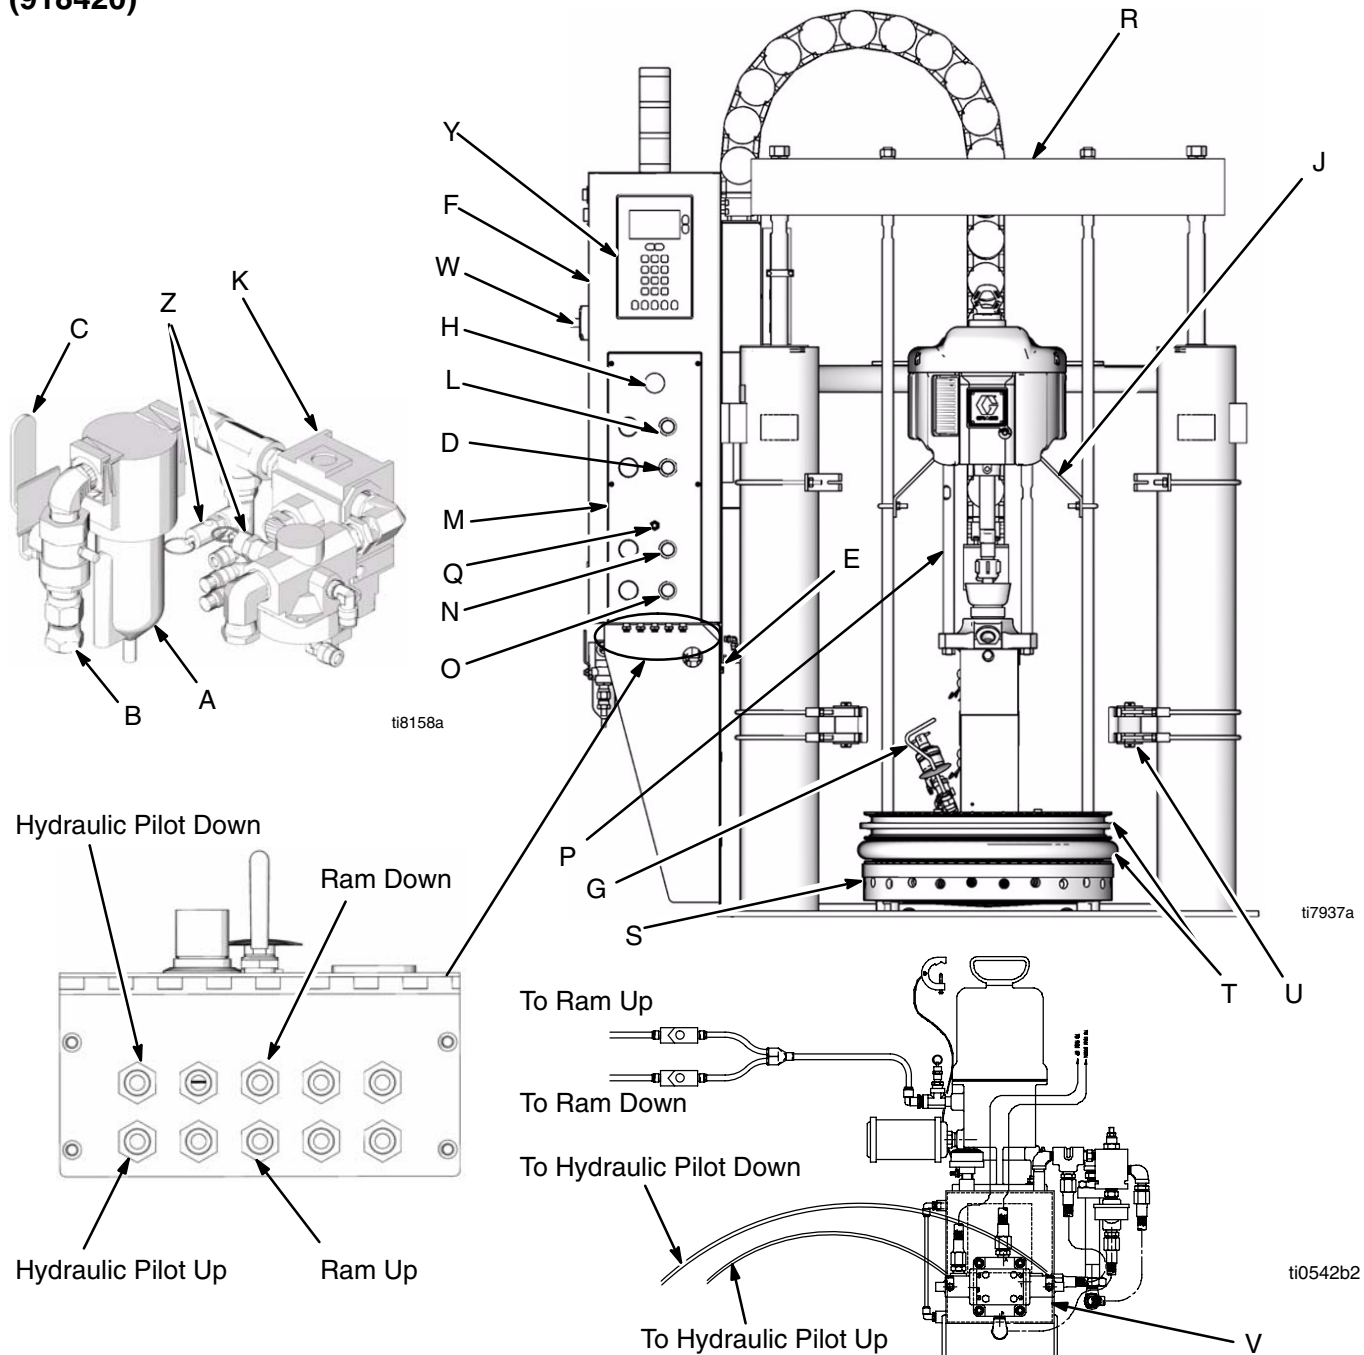

Fig. 4
Before you install the system you should be familiar with the parts discussed below. For more information, refer to Fig. 4 on page 10.
See the Typical Installation drawing (Fig. 4) and Fig. 5. The following components are included with the module:
- The air motor master air valve (E, Fig. 4) is required in your system to relieve air trapped between it and the air motor when the valve is closed. This valve should be easily accessible and located downstream from the air regulator.
- Pump Air Regulator (D) controls pump speed and outlet pressure by adjusting the air pressure to the pump. It is located on the air control panel.
- Hydraulic Power Supply (Fig. 4, item V) controls the ram's movement.
- Ram Plate Blow-off Push Button Valve (H) controls the air pressure to the ram plate blow-off valve.
- Air Filter (A) conditions the air to the ram and the pump.